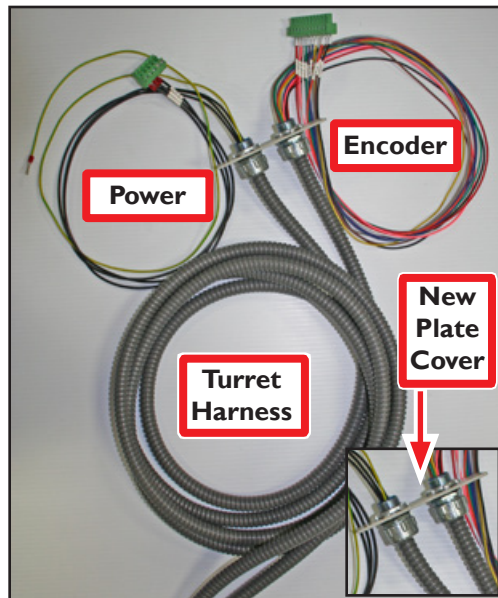

Figure 6
1. Route the Turret Harness by draping it over back of lathe and around right side (see **Figures 6** and **7**). Harness must be free from entanglement through full motion of lathe.